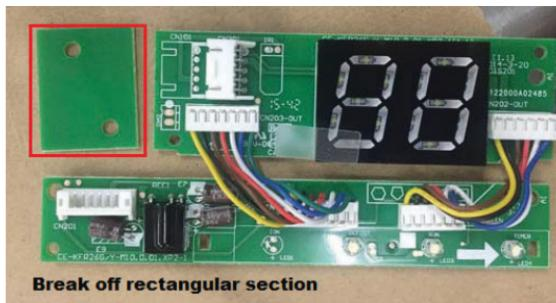

Fig. 21 — Display Board
6. Carefully bend and break off the rectangular section (upper left section with two diagonal holes) from the Display Board (see Fig. 21).